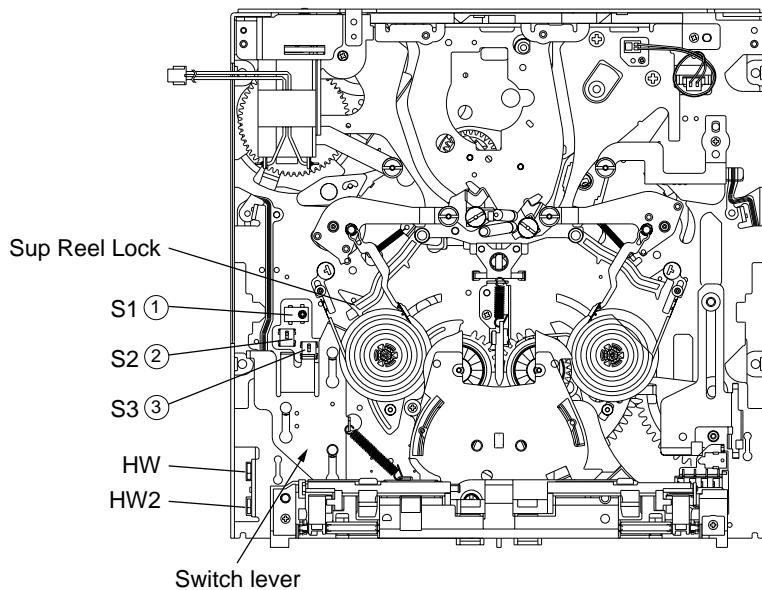

Fig. 4.2.7 Switch Location
- Intake complete** : When cassette intake is completed, in conjunction with the housing movement the main deck's switch lever slides, causing the MECHA board S3 (cassette switch) to be pressed, and intake completion is detected. (See Fig. 4.2.7)